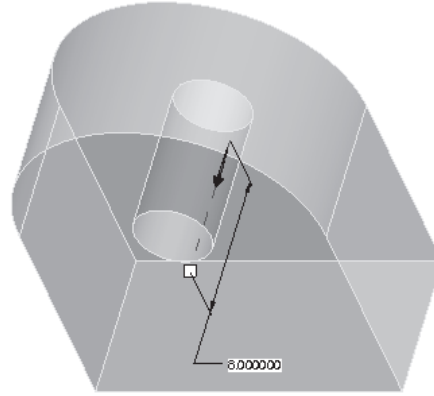

Figure 5-58 Default orientation of the model and the arrow showing the direction of feature creation
4. Choose the **Named View List** button from the **View** toolbar; the flyout is displayed. Choose the **Default Orientation** option from the flyout; the model orients in its default orientation, that is, trimetric view, as shown in Figure 5-58. The yellow colored arrow is displayed on the model, indicating the direction of extrusion.
- In the dimension box present on the **Extrude** dashboard, enter the value **8**, the model appears, as shown in Figure 5-58.